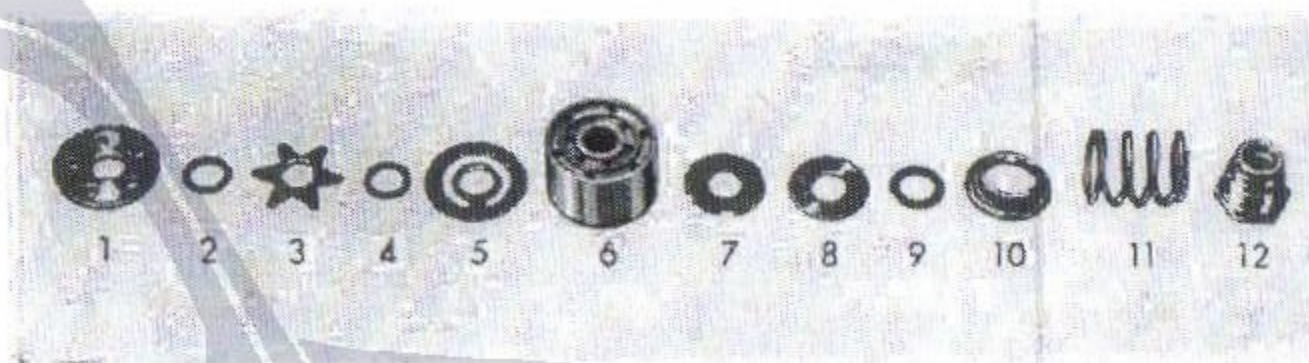

Fig. 175. - Exploded view of shock absorber rebound valve.
Piston bears two concentric sets of holes (Ref. 6, fig. 175). The inner set is closed on down side by the rebound valve which opens from top to bottom. The outer set of holes is closed on up side by the inlet valve which opens from bottom to top.
2) Press shock absorber upside down vertically in a fixture, install parts on rod in the succession shown on fig. 175, make sure that piston travels smoothly in the cylinder and gradually tighten the locking nut. Punch front rod end to prevent slackening of nut.